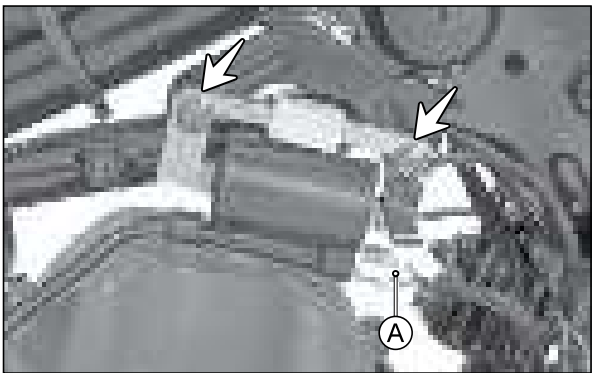

Fig. 3.32
- Disconnect the wiring socket (A) of ignition coil from the wiring harness. (Fig. 3.32)
- Remove the hexagonal flange bolt (M6x20 - 2 Nos.) from the mounting of ignition coil assembly and take out the ignition coil. (Fig. 3.32)